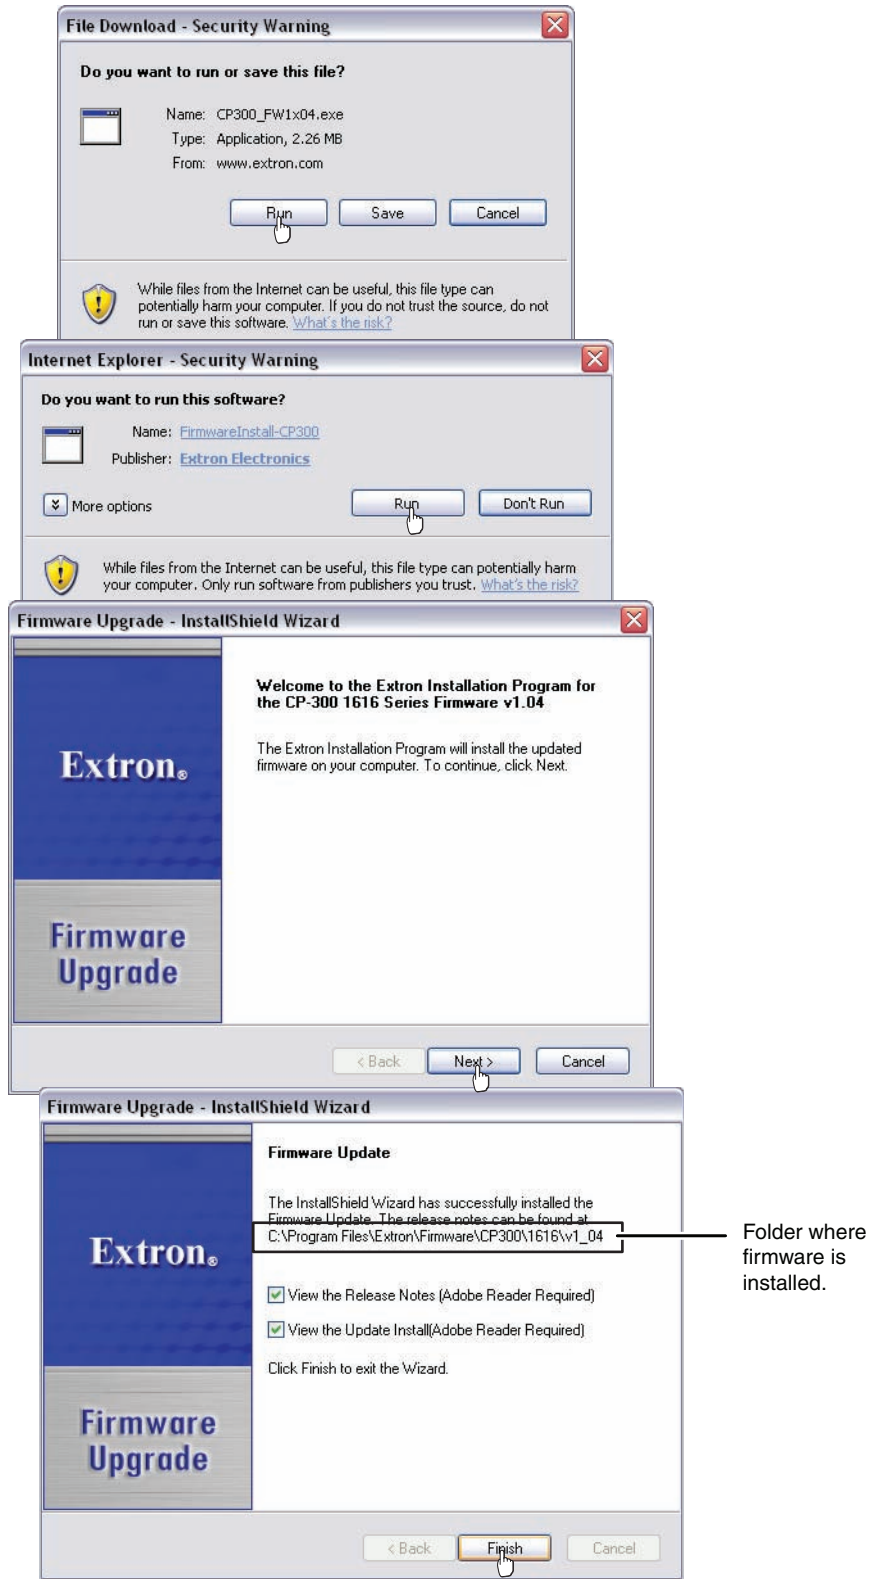

Figure 5-7 — Downloading firmware upgrade files
4. Click **Run** twice (figure 5-7). The PC downloads the firmware update from the Extron Web site and starts the Extron Installation Program to extract the firmware file.